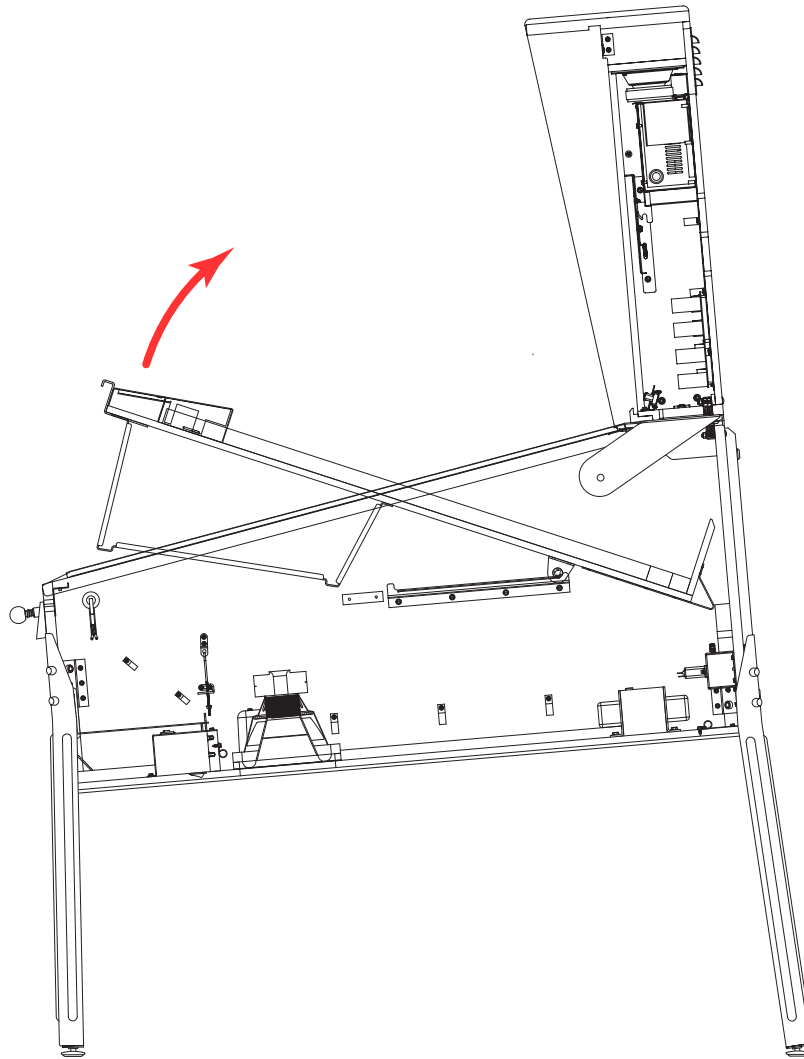
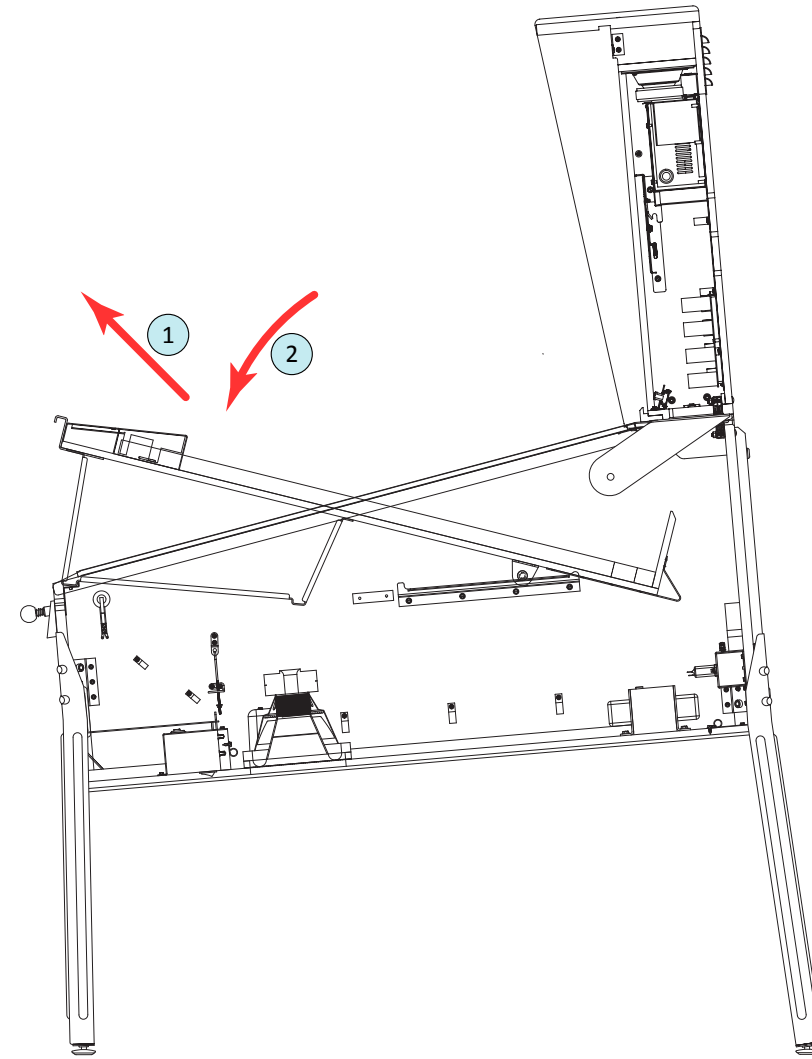

Figure A12. Swing the playfield upward.
Figure A13. Moving the playfield to position 2.
**13)** Grasp the playfield under its bottom arch and swing it upward until the playfield support brackets underneath are fully visible (figure A12). Move the playfield to position 2 (figure A13). Pull it upward and outward until the first pair of feet reach the top of the lockdown bar receiver; then lower the playfield, resting the feet in the steel channel.